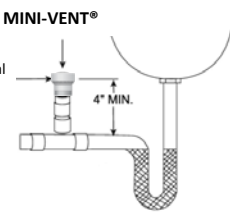
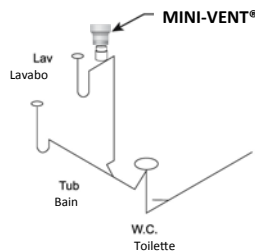

Figure 2
Figure 3
- The MINI-VENT® must be installed in a vertical position a minimum of 4" above the horizontal branch drain or fixture drain being vented (see Fig. 2).
- The MINI-VENT® is rated for single fixtures (fig. 2), kitchen sinks and bathroom groups (fig. 3) including back to back applications up to 160 DFUs.